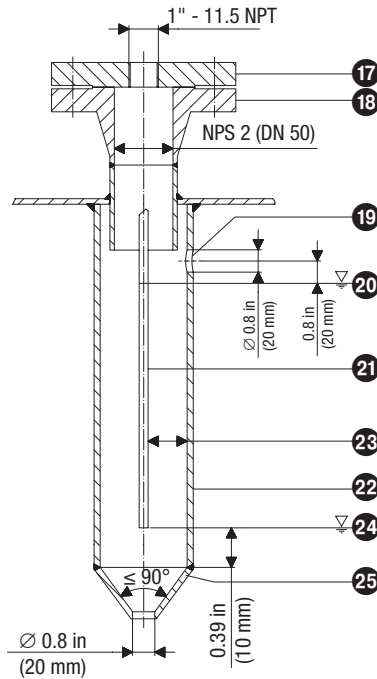

Fig. 12 Protective tube (provided on site) if electrode is used as an internal water level limiter
- The electrode rod must be at a minimum distance of 0.55 in (14 mm) from the flange or tank wall. **Figs. 12 - 14**